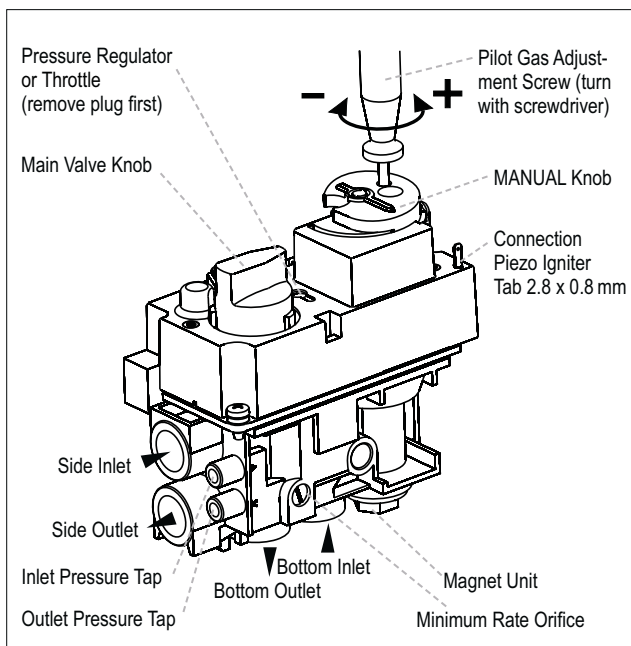

Figure 15: GV60, Connections and Adjustment Options
Gas control knobs function as follows (see figure 15):
1. The adjustment screw can be reached through a hole in the MANUAL knob (see figure 15).
1. Connect a pressure manometer to the valve outlet pressure tap. Pressure tap is opened by turning the screw counter-clockwise ↻. Pressure regulator or throttle are located under the cover and can be reached by removing the plug (see figures 15 and 17).